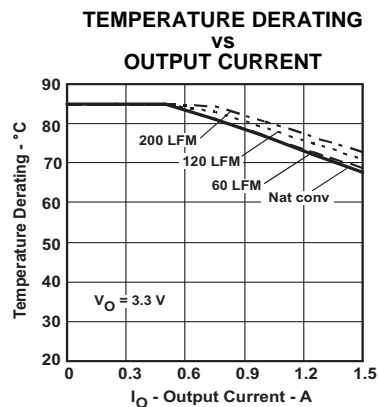
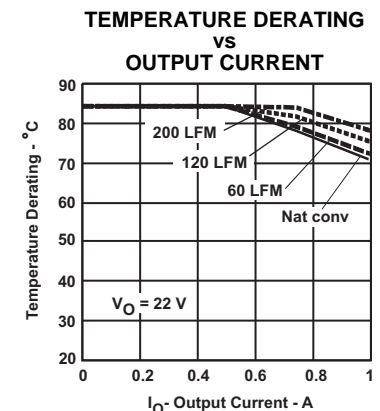

Figure 21.
Figure 26.
- (2) The temperature derating curves represent the conditions at which internal components are at or below the manufacturer's maximum operating temperatures. Derating limits apply to modules soldered directly to a 100-mm x 100-mm, double-sided PCB with 2 oz. copper. For surface mount packages, multiple vias (plated through holes) are required to add thermal paths around the power pins. Please refer to the mechanical specification for more information. Applies to Figure 21 through Figure 26.